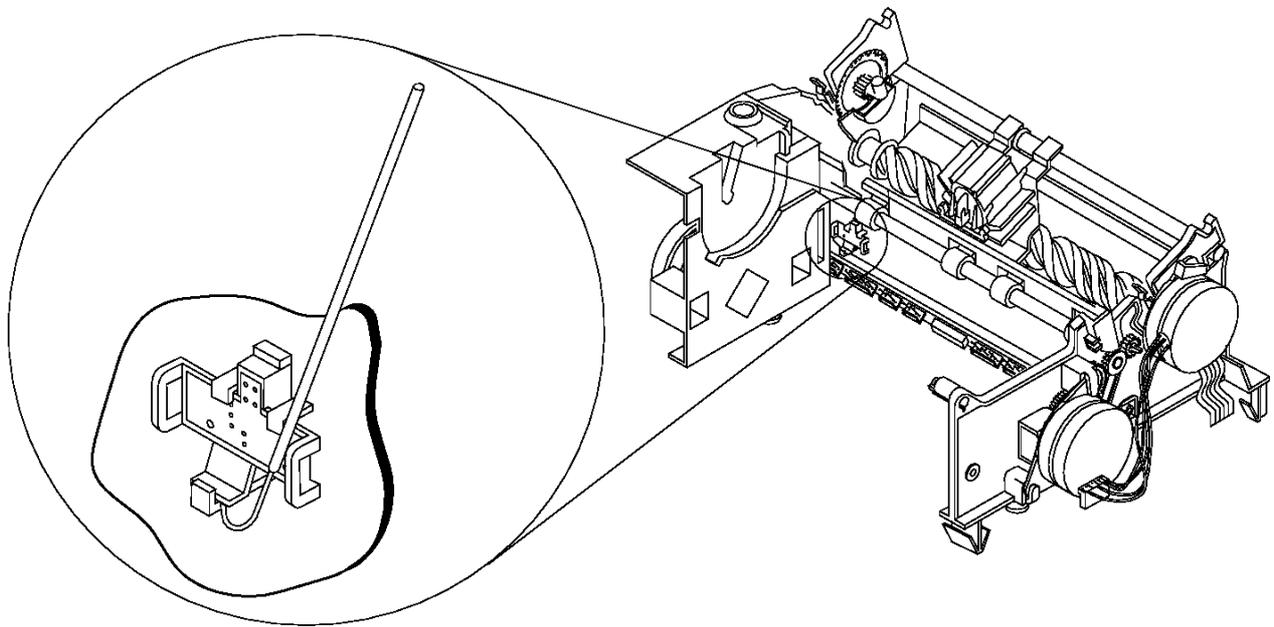

Figure 6-67. Lower DI Sensor
8. Using a spring hook as shown, release the sensor from the tab by gently lifting up. See Figure 6-67 in topic 6.38.17.2.